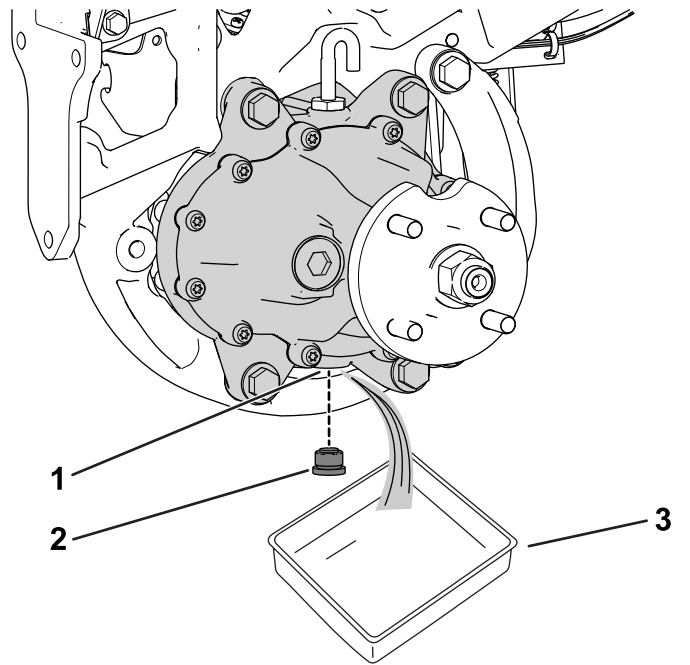

Figure 3
1. Place a drain pan under the wheel-motor assembly (Figure 3).
2. Remove the plug from the drain port (Figure 3).
4. Install the drain plug into the drain port (Figure 3).